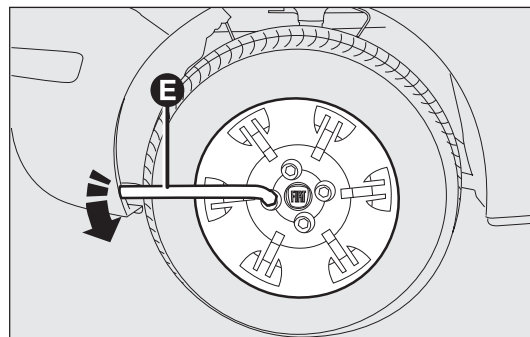

fig. 123
- ☐ loosen by about one turn the bolts on the wheel to be replaced, using the tool E-fig. 123;